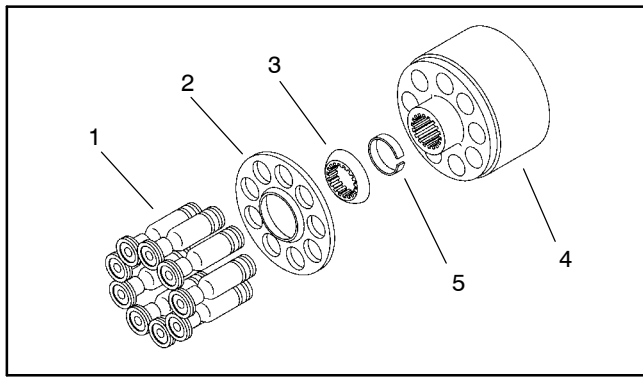

Figure 60
A. The finish on the piston shoe surfaces of the camplate (11) should show no signs of scoring.
B. Inspect camplate (11) bushing surface for wear. Also inspect surface for coating transfer from bushing.
4. Inspect bushing (44) for contamination embedment within coating of bushing surface coming in contact with camplate (11).
5. Inspect rotating kit (Fig. 60):